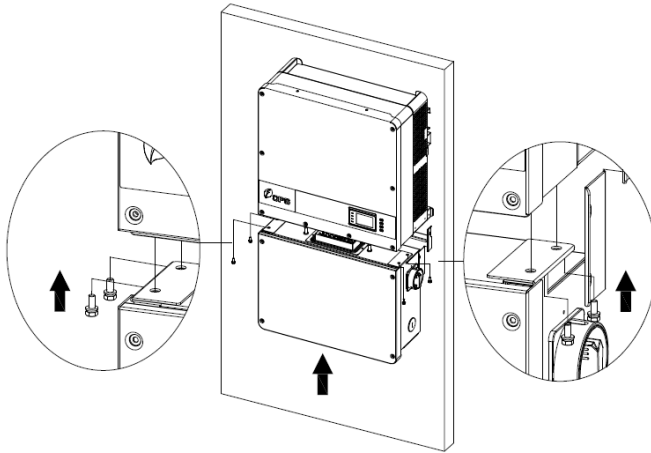

Figure 3-13 Installation of the Wiring Box
Step 4 Secure the wirebox to the main enclosure by using the **M6x18 screws** (4pcs) to fasten the wirebox. (see Figure 3-13). Tool required: No.3 Phillips head screwdriver or 10mm Wrench, torque value of 4 Nm (35.4in-lbs)